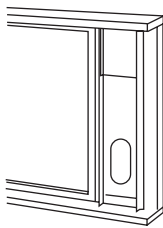

Fig.16
3. Cut the foam seal (adhesive type) to the proper length and attach it on the top of the window. See Fig.16.